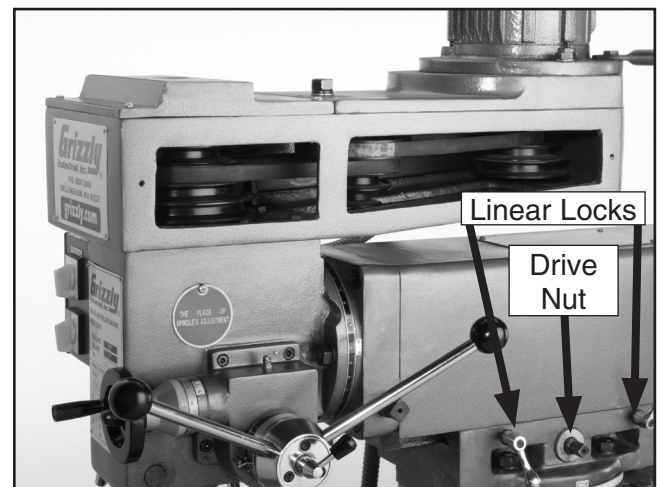

Figure 22. Location for linear movement of head.
2. Loosen the two linear lock handles that lock the travel (see **Figure 22**).
3. Place the knee travel handle on the drive nut (**Figure 22**) and rotate it either clockwise or counterclockwise until the spindle is in the desired position.